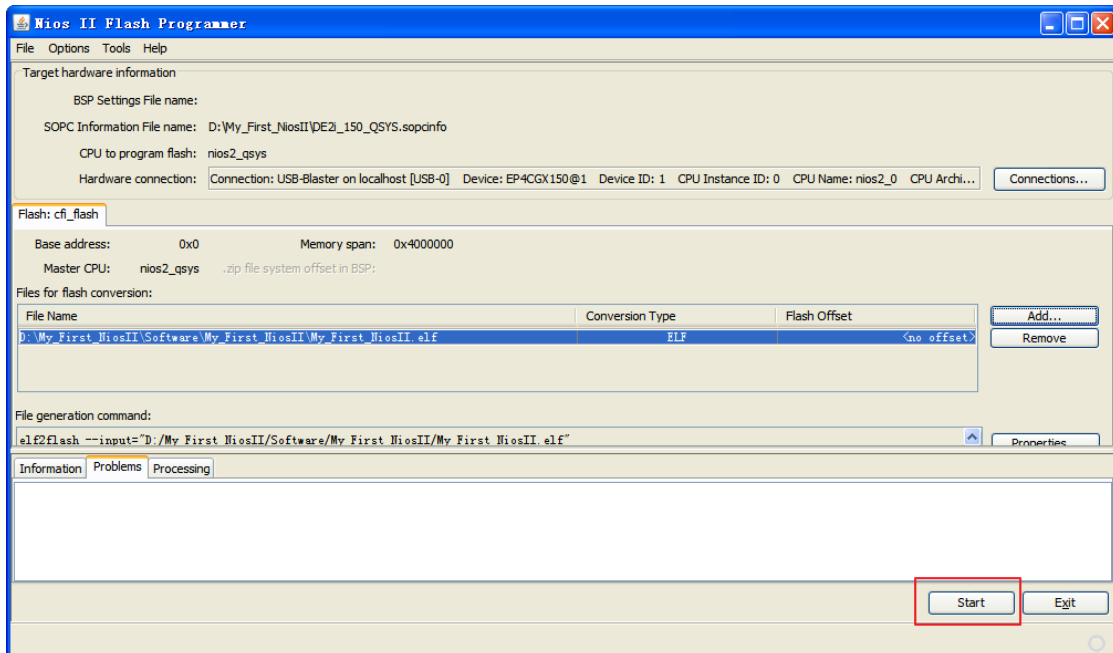

**Figure 3-27 Back Nios II Flash Programmer**
5. Click ok to back the Nios II Flash Programmer box as shown in Figure 3-27, and click add.. to select file to Flash Conversion as shown in Figure 3-28.